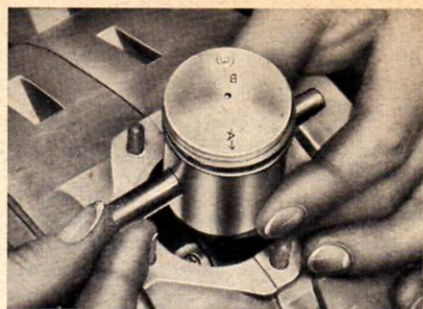

Fig. 60 Pressing in gudgeon pin VI / 57 / 592
1. Fit piston and pressure pin, part No. 0101-70401-00.1, to the connecting rod so that the arrow stamped on the bottom of the piston points to the exhaust outlet on the cylinder. Press the oiled gudgeon pin into the oiled connection-rod bush, as shown in fig. 60.